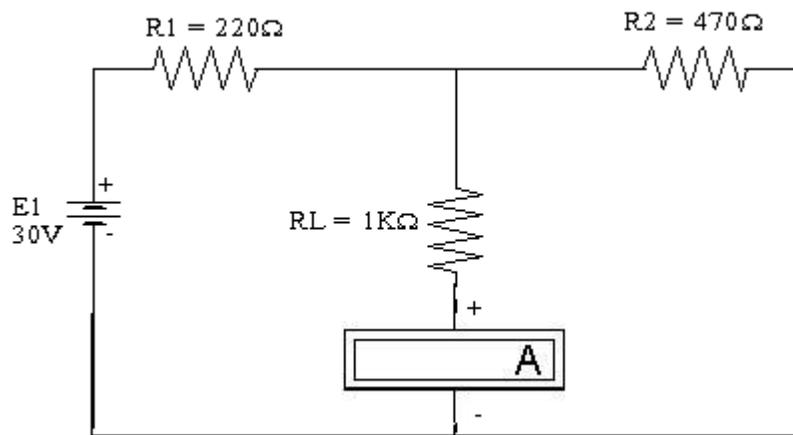

Figure.4 Connection diagram for determination of I_{L1}
3. Give connections as given in Figure 4, 5 & 6 by simply dragging the mouse.